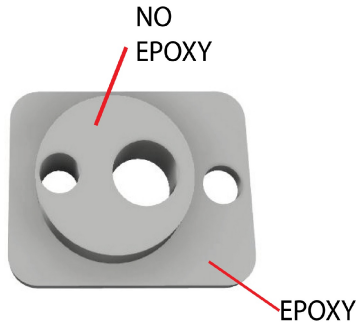

fig 1
- 2) Mix a small quantity of equal parts of A and B of the supplied 5 minute epoxy and apply it to the flat surface of the Motor Mounting Plug as shown (fig 1). Do not put any epoxy on the protruding round surface of the Plug. Save the remaining unmixed epoxy.